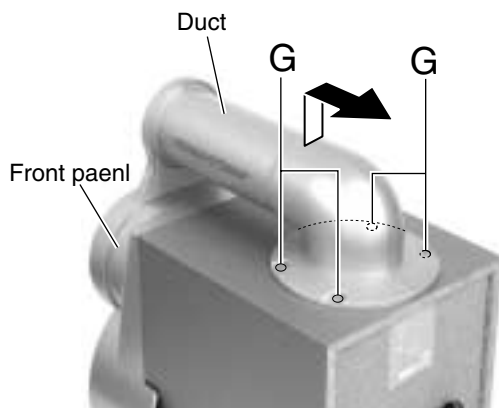

Fig.7
**■ Removing the duct (See Fig.7)**